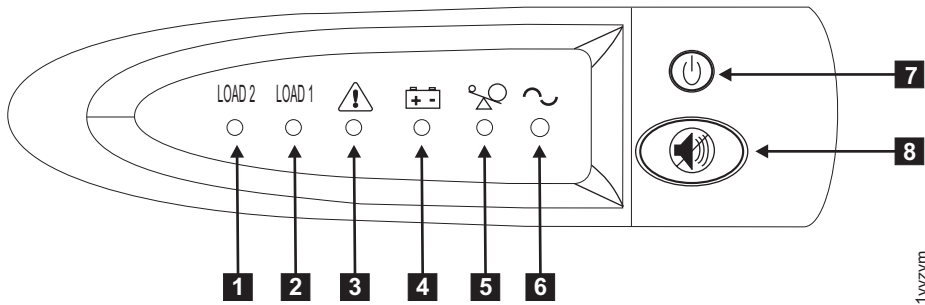

Figure 17. 2145 UPS-1U front-panel assembly
8. Press and hold the on/off button (**7** in Figure 17 on page 21) for approximately five seconds. You might need a pointed device, such as a screwdriver, to press the on/off button. The front panel indicators cycle through a startup sequence while the 2145 UPS-1U conducts a self-test.